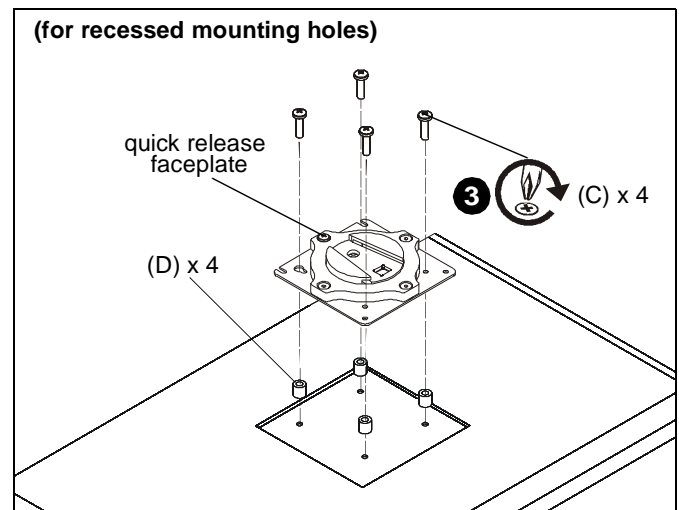

Figure 7
- Place four spacers (D) on top of mounting holes on back of display. (See Figure 7)
- Using Phillips screwdriver, carefully install four M4x25mm screws (C) through corresponding holes on faceplate, spacers (D) and into the mounting holes on the display. (See Figure 7)